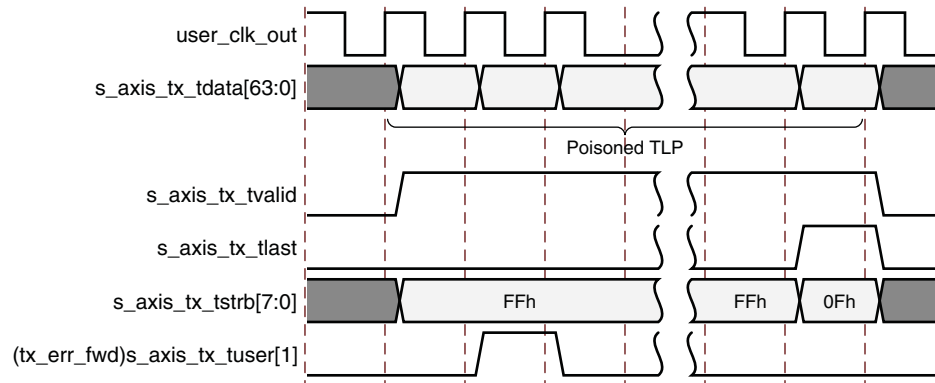

Figure 3-12: Packet Data Poisoning on the Transmit Interface
- Assert (tx_err_fwd) s_axis_tx_tuser[1] for at least one valid data transfer cycle any time during the packet transmission, as shown in Figure 3-12. This causes the core to set EP = 1 in the TLP header when it transmits the packet onto the PCI Express fabric. This mechanism can be used if the User Application does not know whether a packet could be poisoned at the start of packet transmission. Use of terr_fwd is not supported for packets when (tx_str) s_axis_tx_tuser[2] is asserted (streamed transmit packets). In streaming mode, you can optionally discontinue the packet if it becomes corrupted. See Discontinuing Transmission of Transaction by Source, page 56 for details on discontinuing packets.